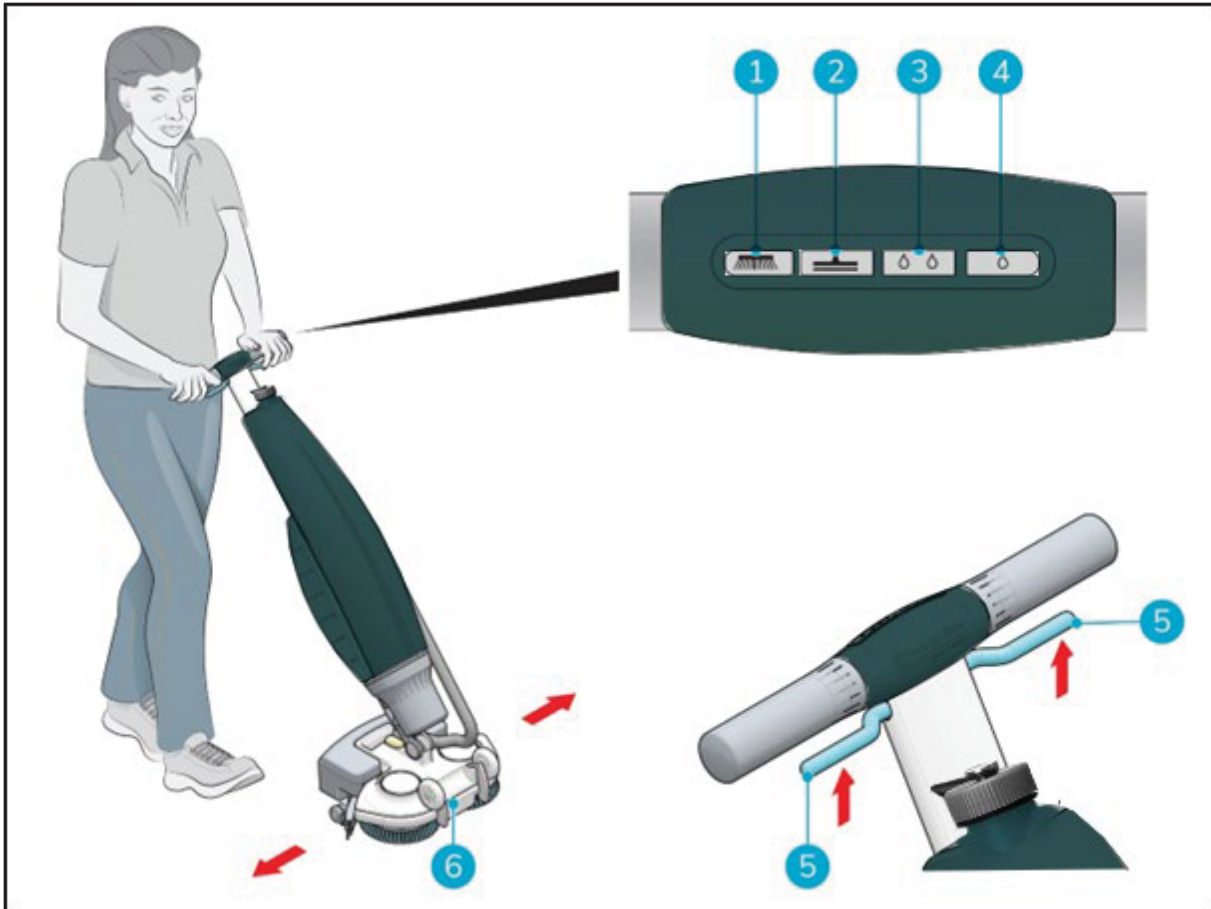

Figure 17
- Stand behind the i-mop® Lite. Choose your cleaning mode via the buttons on the control panel (Figure 17, pos 1 to 4). You can select the options independently or combined.
- Squeeze the trigger on the handle (Figure 17, pos 5). This will also start the i-mop® Lite
- Steer by gently turning the handle left or right to move the scrub deck (Figure 17, pos 6).
- Releasing the trigger (Figure 17, pos 5) will immediately stop the i-mop® Lite. The vacuum motor will stop after 3 seconds.